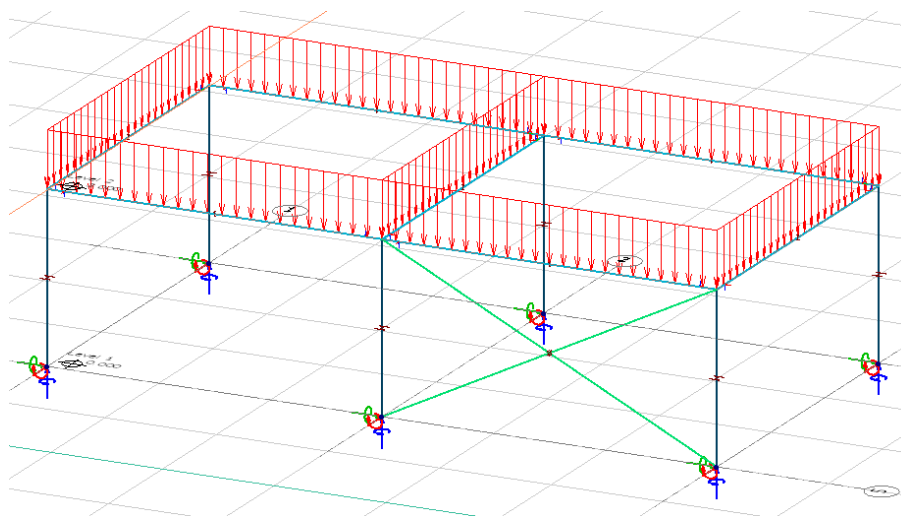

Figure 6-3
4. FEM-Design model (at the stage as shown in Figure 6-3) has been updated with the new .struxml file containing changes made in Revit since the first export.